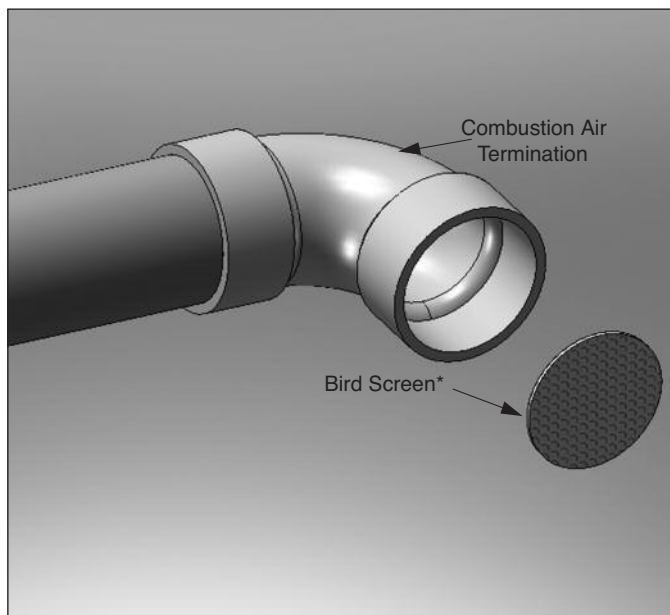

Fig. 14: Horizontal Combustion Air Bird Screen Installation with 90° Elbow Termination
1. The vent and combustion air terminations must include a factory supplied "bird screen" installed as shown in Fig. 4 page 12 & Fig. 14 page 18.